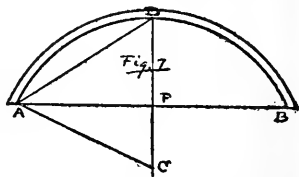

FIGURE 7.
*Ex. 4.* How many yards of border are required to go around a circular window, Fig. 7, opening AB 16' 0" and depth DP=4' 1". We first find the chord AD=